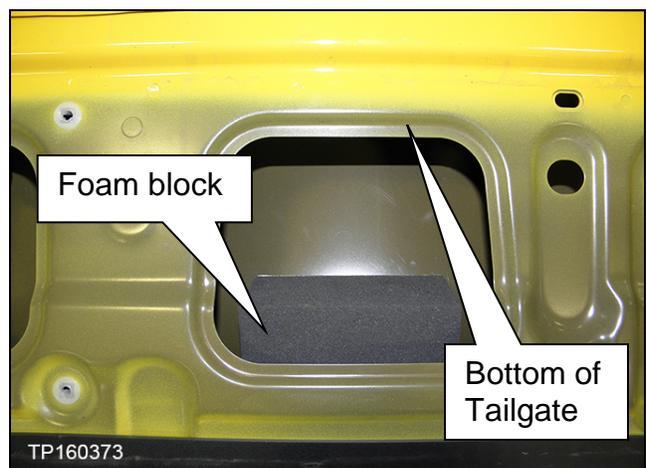

Figure 4
- Install the passenger side foam block 86.5 mm ( $\pm 10$ ) from the bottom edge of the tailgate access hole (Figure 4).